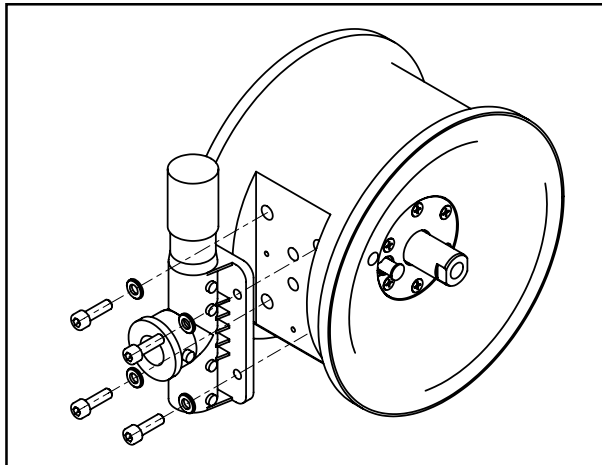

Fig. 21: AirSave System (DL15/25/40)
- Loosen four mounting screws on the control block. Now you can detach the complete control valve from the control block. This is also possible without disassembling the pump first! (Fig. 21).